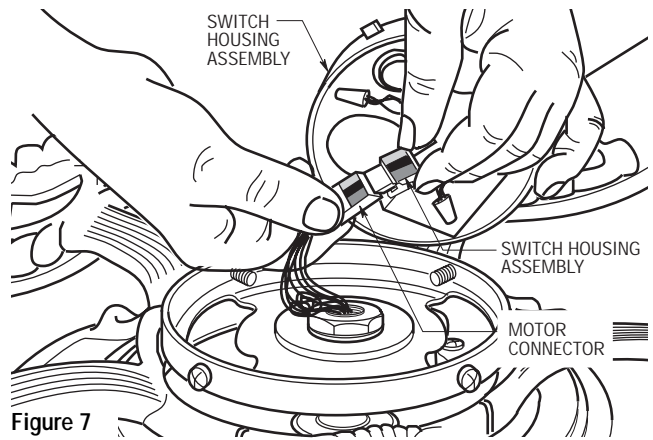

Figure 7
- 11. Engage the connector of the switch housing assembly with the motor connector (Figure 7). The two connectors are keyed and color-coded and must be mated correctly (color-to-color) before they can be engaged. Make sure the connector latch closes properly.